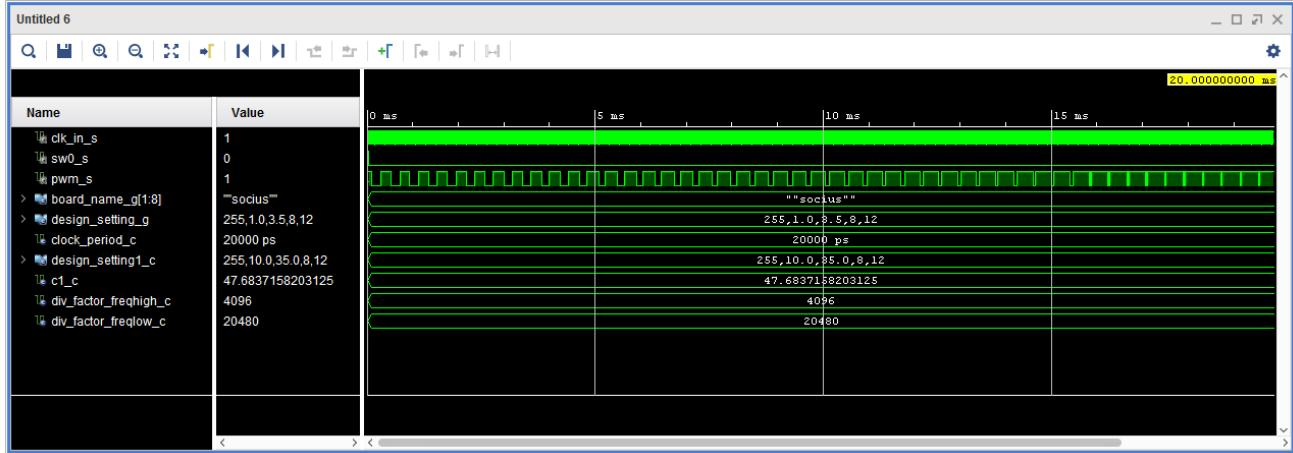

Figure 8.2: Simulation Results
3. Assuming no errors, your simulation result should look similar to **Figure 8.2**.